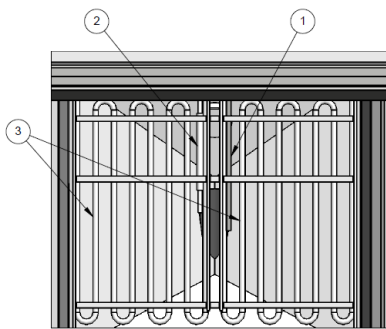

Figure 2.8.1 - Frypot view SELV14
- ✓ Ensure that high temperature limit probe(s), item 2 in figures 2.8.1 & 2.8.2 below are in place and secure as shown below. Ensure the temperature control probe(s) (item 1) is positioned properly as shown.
- ✓ Ensure the heating elements (3) are free to move up out of the frypot without hitting any structures or other items above the fryer.